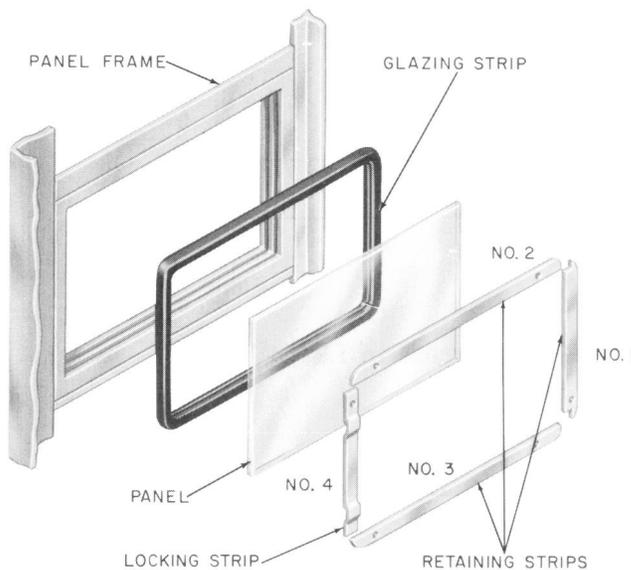

Fig. 5—Assembly of Side or Rear Panels
6.02 Booth panels and signs are held in place by four interlocking retaining strips inserted in sequence as shown in Fig. 5. The No. 4 strip is rippled and is held in place by interface friction. Refer to Table C for retaining strips.
- (1) Remove No. 4 locking strip.
- (2) Remove retaining strips No. 2 and 3.
- (3) Remove retaining strip No. 1.
- (4) Remove panel and rubber glazing strip.
- (5) Apply rubber glazing strip to replacement panel.
- (6) Insert panel into frame with the beaded edge of glazing strip on the outside.
- (7) Replace retaining strips in sequence as shown in Fig. 5.